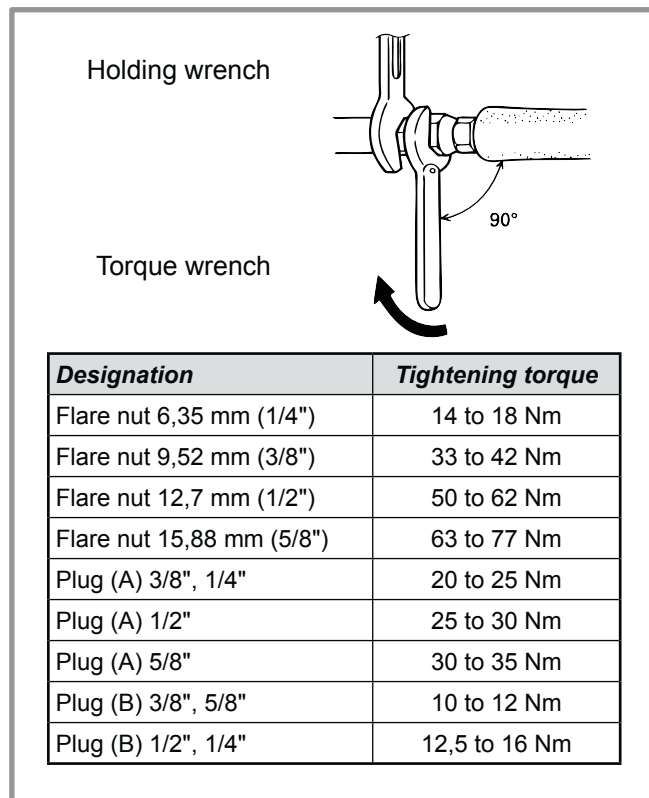

figure 17 - Tightening torque
- Remove the access plugs (A) from the valve controls.
- Refit the 2 original caps (be sure they are clean) and tighten them to the recommended tightening torque (figure 17, page 17). The sealing is performed in the caps only metal to metal.